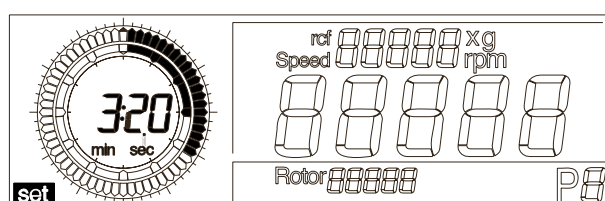

Fig. 5.9: Setting the time
- Turn the left rotary knob until "set" appears in the lower left area of the display (Fig. 5.9).
In this example (Fig 5.9) is 3:20 min.